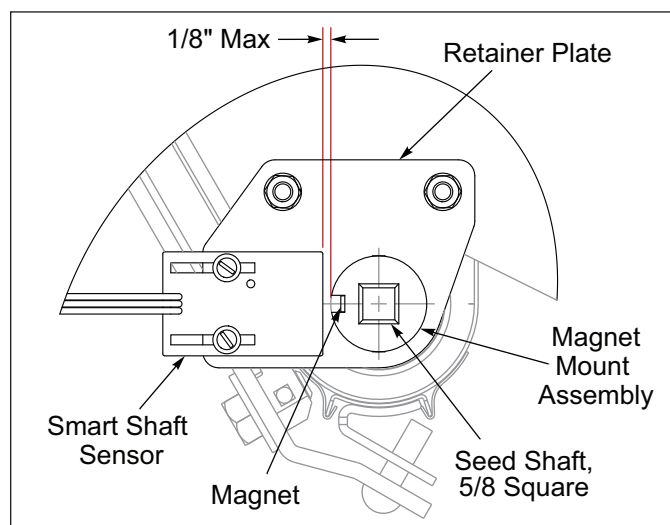
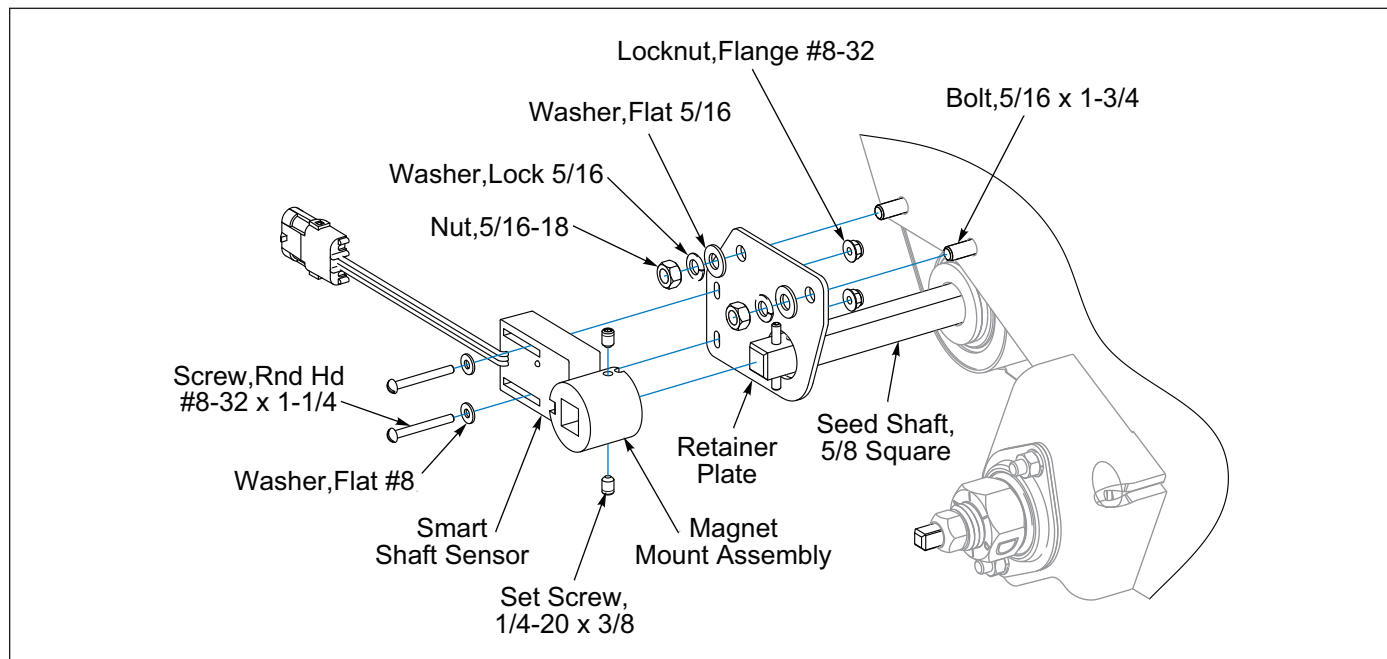

Figure 2-22: Rear Seed Box Smart Shaft Sensor Detail
Figure 2-28: Brillion Elite Mini Monitor - Rear Seed Box Seed Shaft Sensor
4. RH Brome Seed Box end, remove 3-Hole Retainer Plate and replace it with 5-Hole Retainer Plate. See Figure 2-28. Slide Magnet Mount Assembly onto Seed Shaft up tight against the Roll Pin. Secure to Seed Shaft by tightening Magnet Mount Assembly Set Screws. Install a Smart Shaft Sensor to the Retainer Plate with sensor provided hardware and #8-32 Flange Locknuts. Adjust the Smart Shaft Sensor so that it is 1/8" Max away from the Magnet Mount Assembly on the Seed Shaft. See Figure 2-22. Connect the Smart Shaft Sensor to the Seeder Harness.